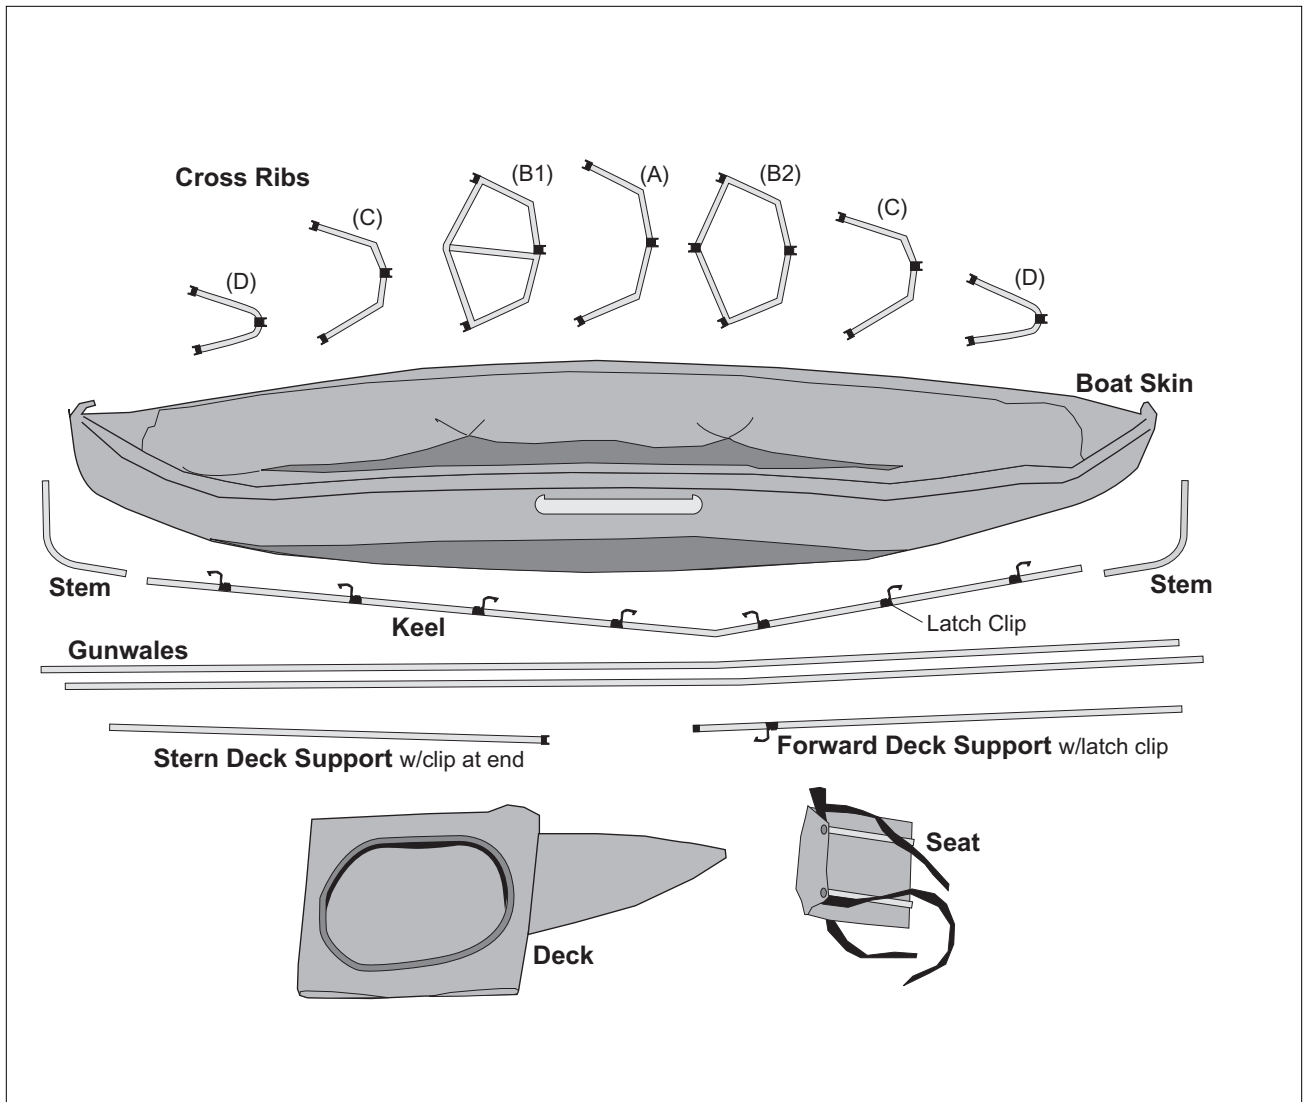
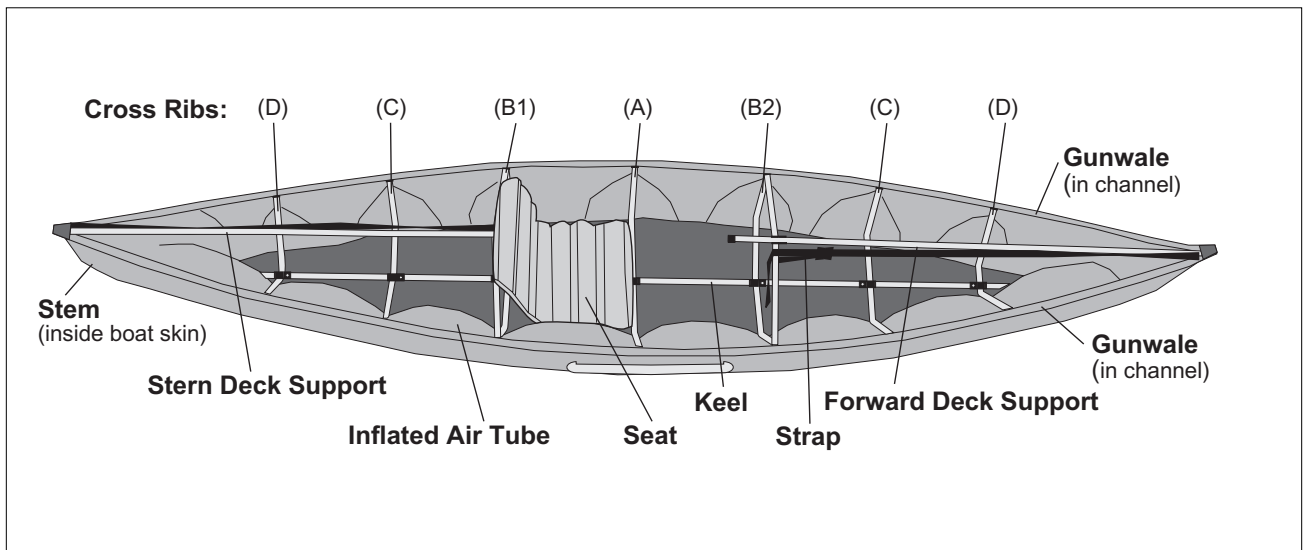

Figure 1, Parts
Figure 2, Assembled (deck removed)
**NOTE!** We recommend that you study this manual carefully before you start the assembly procedure! When assembling the Puffin Kayak, please refer to Figure 1 and Figure 2 of this manual.